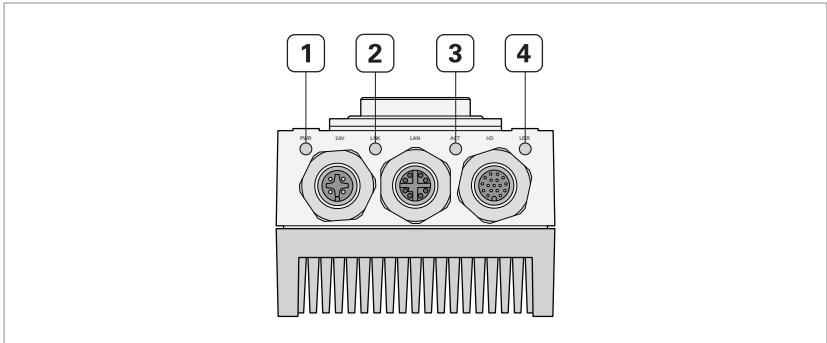

Fig. 3: Status LEDs on the bottom side of the camera
6. Wait for the PWR LED to light up (⇒ Fig. 3 on page 14).